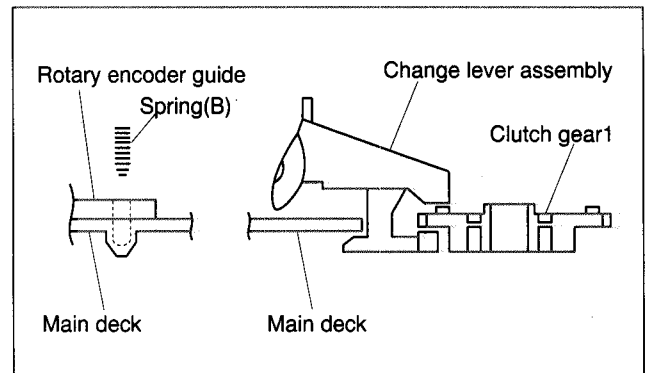

Fig. 2-2-24
- (2) Let the spring (B) drops into the rotary encoder guide and install the change lever assembly. (Take care not to mistake a direction of the spring.) The point is to slightly lift the clutch gear1 and catch it from the both sides with the assembly. (See Fig.2-2-24.)